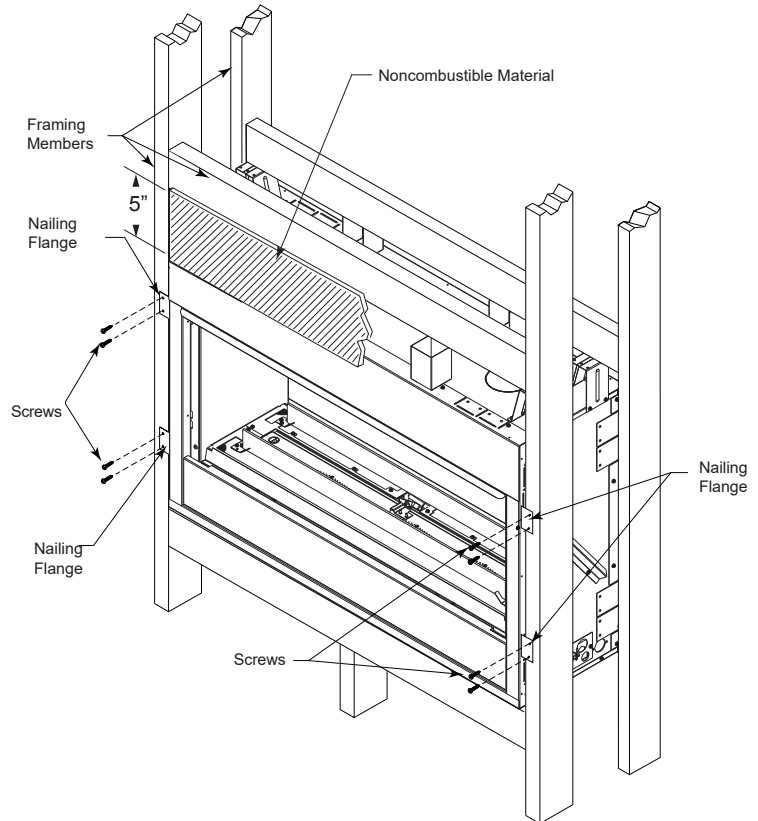

Figure 8. Secure Fireplace to Framing Studs
The fireplace must be secured to the framing studs as shown in Figure 8. Use four (4) screws to attach fireplace to framing. The side nailing flanges are  $\frac{1}{2}$ " or  $\frac{5}{8}$ " to accommodate different wall thickness.